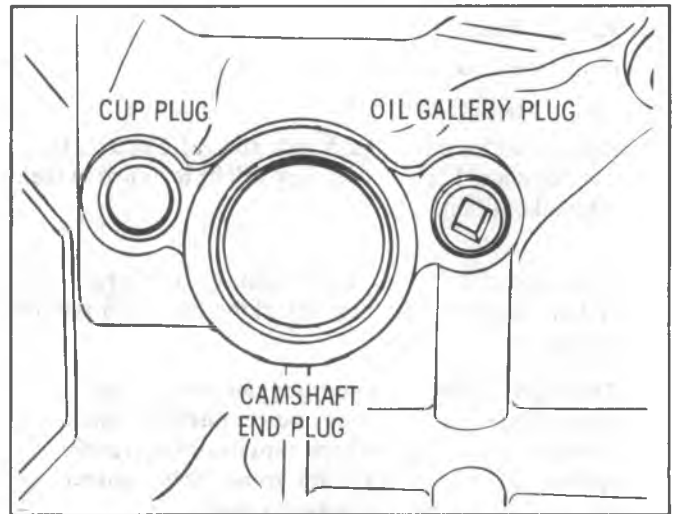

Fig. 6A6-93--Camshaft Oil Gallery Plugs
2. Use a piece of 3/32" (2.4mm) brass rod with a 90° bend at the end to check the oil hole opening as shown in Fig. 6A6-92.
7. Use a piece of 3/32" (2.4mm) brass rod with a 90° bend at the end to check all oil hole openings. Wire must enter hole or the bearing will not receive sufficient lubrication. (See Fig. 6A6-92).